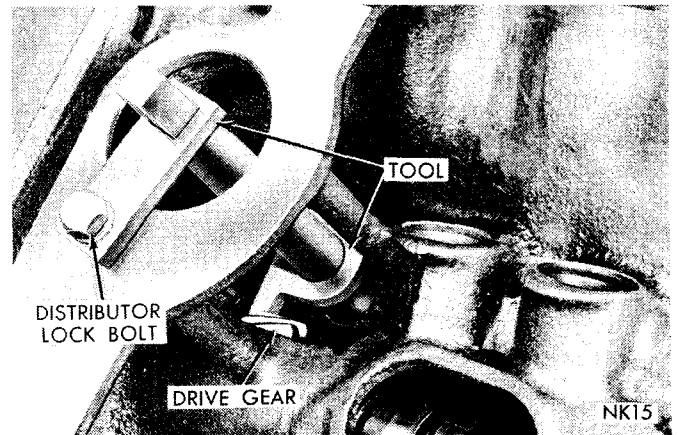
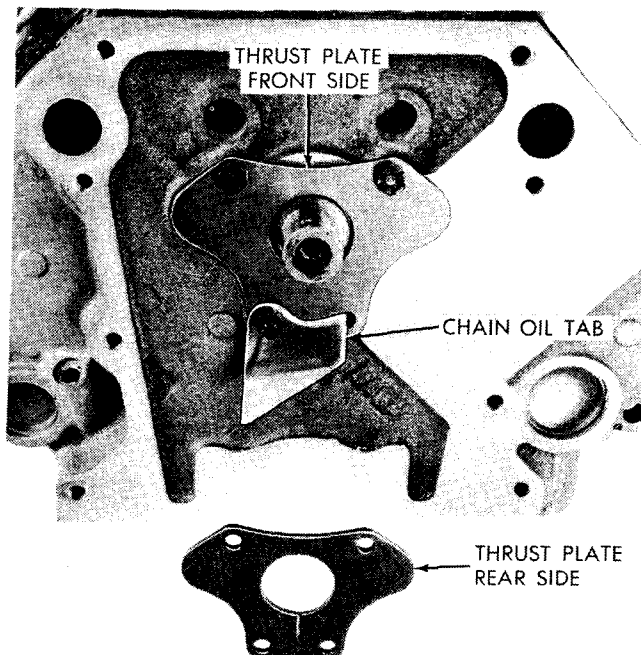

Fig. 22—Camshaft Holding Tool C-3509
Fig. 28—Timing Chain Oil Tab Installation
When installing timing chain, use Tool C-3509 to prevent camshaft from contacting the welch plug in the rear of engine block. Remove distributor and oil pump-distributor drive gear. Locate tool against rear side of cam gear and attach tool with distributor retainer plate bolt (Fig. 22).
(2) Install Tool C-3509 with tongue back of distributor drive gear, (Fig. 22).
(3) Hold tool in position with distributor lock plate screw. This tool will restrict camshaft from being pushed in too far and prevent knocking out the welch plug in rear of cylinder block. **Tool should remain installed until the camshaft and crankshaft sprockets and timing chain have been installed.**
(4) Install camshaft thrust plate and chain oil tab with three screws as shown in (Fig. 28). **Make sure tang enters lower right hole in thrust plate.** Tighten to 210 inch-pounds.
(5) Place both camshaft sprocket and crankshaft sprocket on the bench with timing marks on exact imaginary center line through both camshaft and crankshaft bores.
(6) Place timing chain around both sprockets.
(7) Turn crankshaft and camshaft to line up with